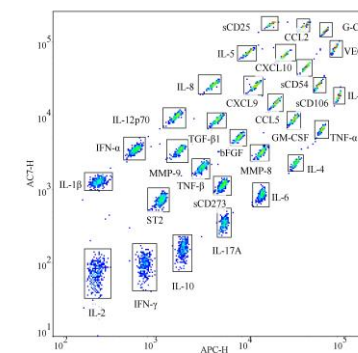

Figure 2
- 3) Create an APC-H/APC-Cy7-H scatter plot. From the P1-gated bead population, identify individual bead populations and gate each cytokine-specific bead population using rectangular gates (Figure 2).